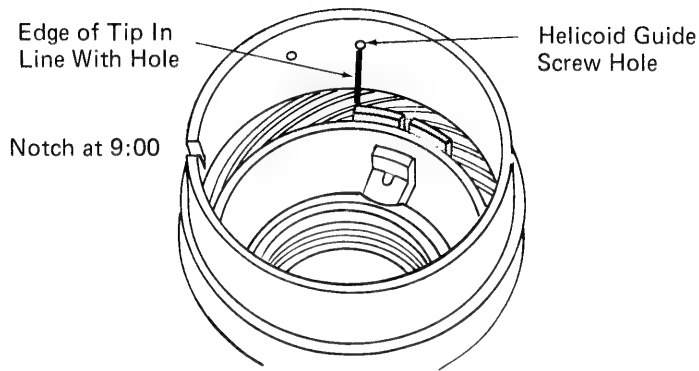

Figure 3.10. Correct Starting Position of Helicoid Threads
1. Have the diaphragm housing assembly, the 2nd lens group slide ring, and the 4th lens group slide installed in the inner helicoid. Place the inner helicoid on the work surface, rear end up, and orient it so the notch in the tip of the cam ring is at the 1:00 o'clock position. (See Figure 3-10.)
2. On the outer helicoid assembly turn the helicoid frame to the infinity position against the infinity stop. Now lower the outer helicoid assembly down over the inner helicoid with the notch in the helicoid frame at approximately the 9:00 o'clock position as shown in Figure 3-10. Note in Figure 3-10 that the exact starting position of the helicoid thread is at the point where the edge of the cam ring projection is in line with the screw hole for the helicoid guide.